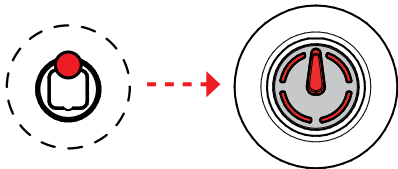

Fig. 13
- When disassembling the gear motor, ensure that the pin and ball are reassembled in the correct position, as described in paragraph 12.1. If the references do not match, rotate the pin until the position of the ball (red dot in Fig. 13) corresponds to the arrow on the indicator.